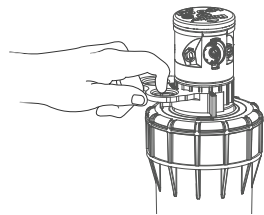

Figure 1
- 1 Slide the adjustment wrench PN 382800SP onto the gray adjustment ring below the nozzle turret (Figure 1).